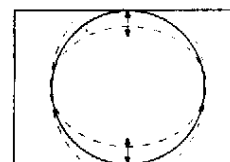

Fig. 9
- Adjust the vertical size to obtain overscan (fig. 9).